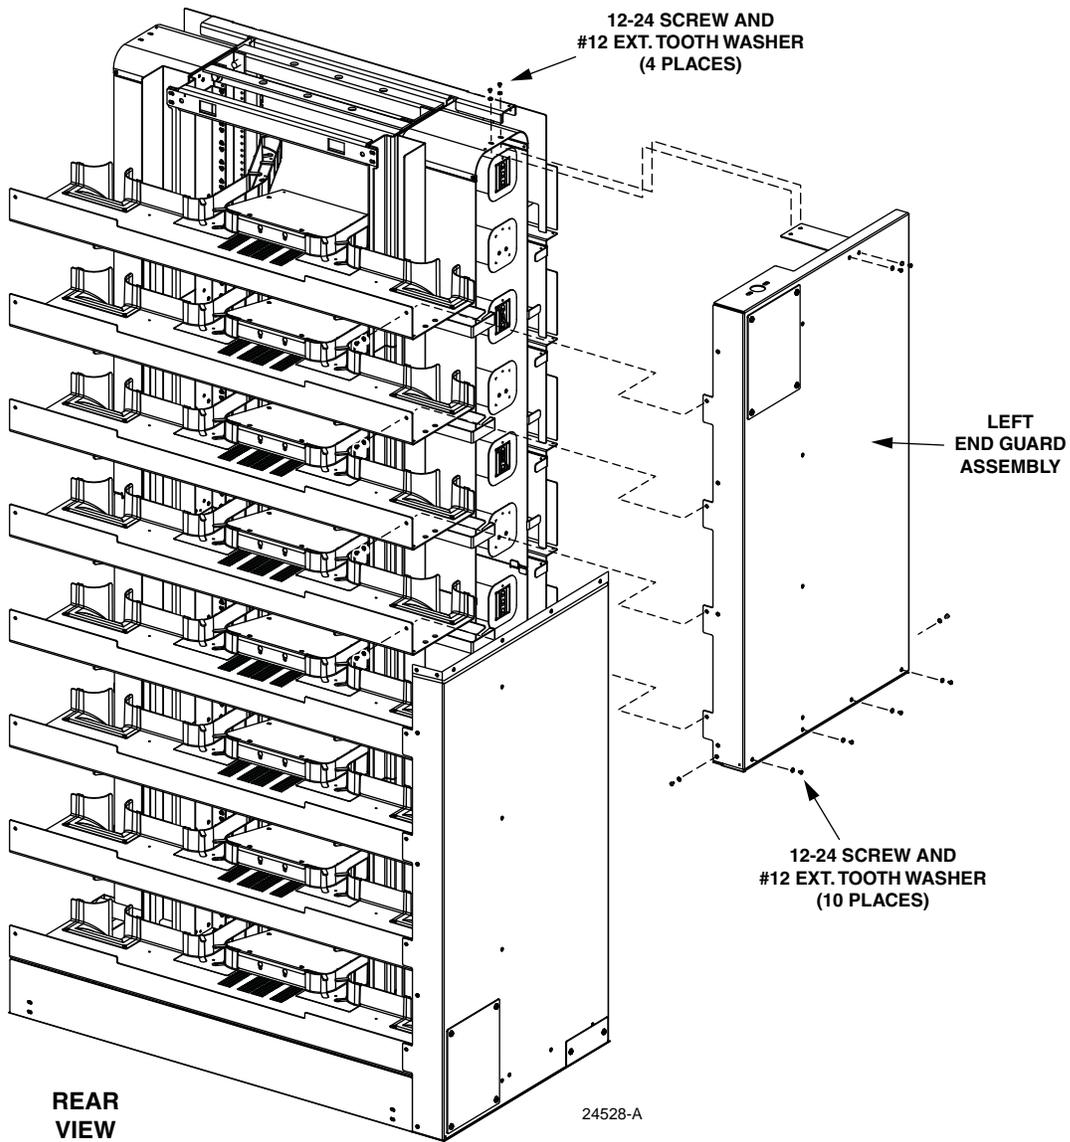

Figure 19. Upper End Guard Installation
4. Position upper end guard over lower end guard against the tower. See Figure 19.